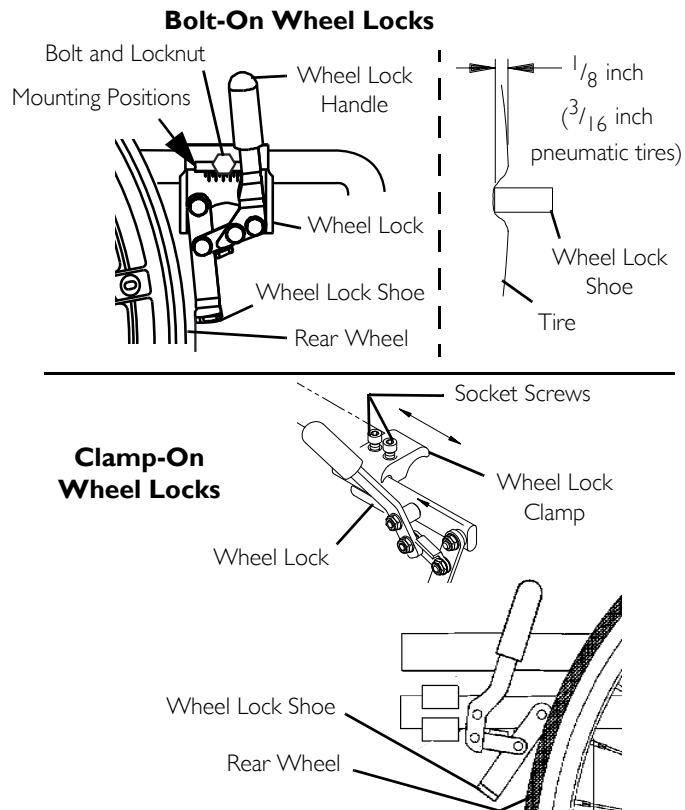

FIGURE 6 Adjusting Patient-Operated Wheel Locks
6. Measure the distance the wheel lock is embedded into the tire as shown in FIGURE 6 on page 62.